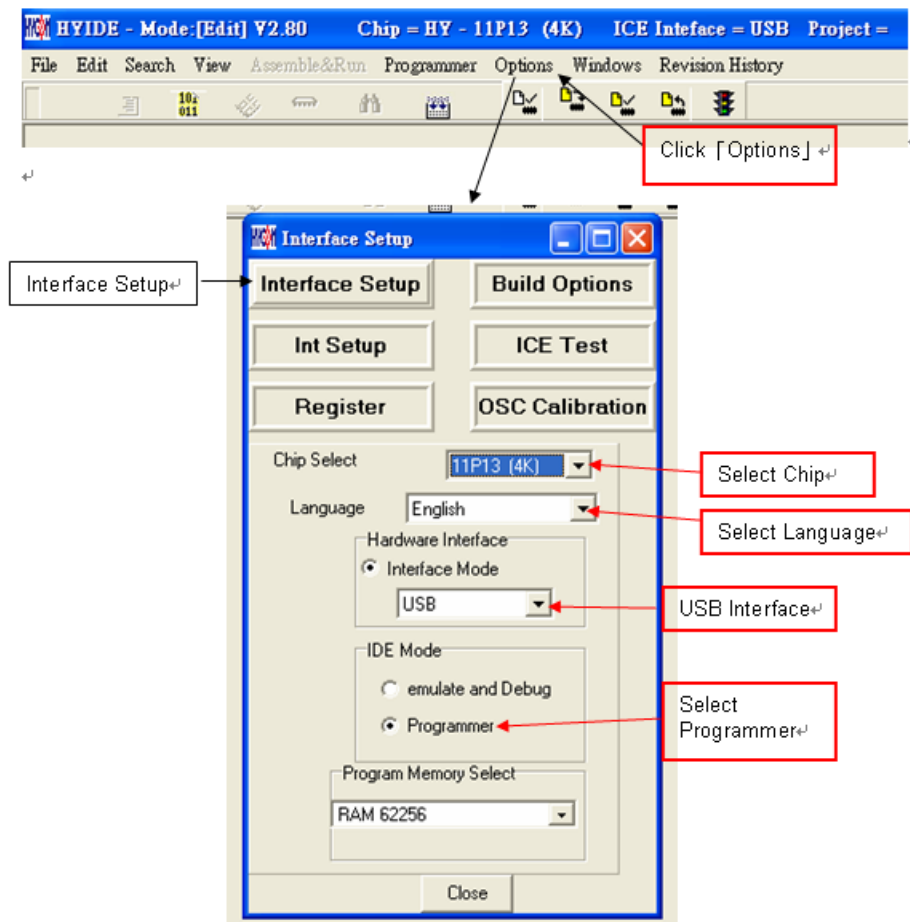

Figure 67
- Only the first followed argument is effective as Figure 67 described.